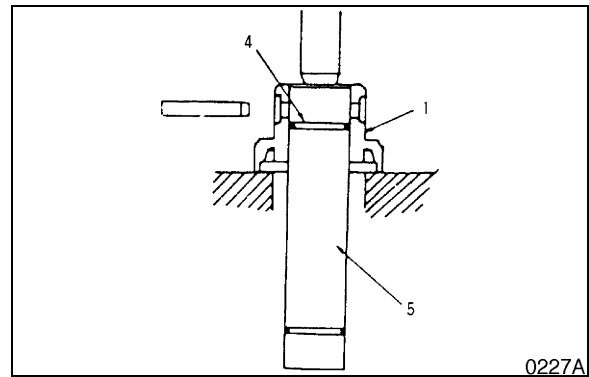

Figure 24
5. Use a press to separate axle (5, Figure 24), O-ring (4), and bearing (1).